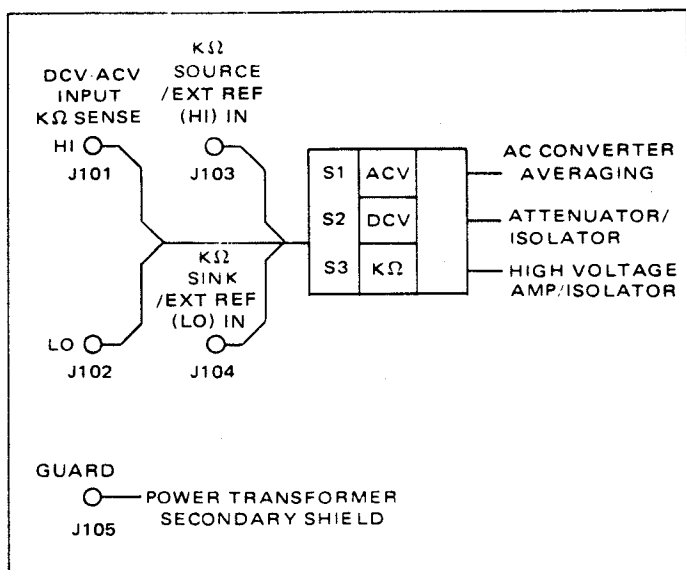

Figure 4.4 - Function Controls
4.3.3.1 A simplified block diagram of the function controls is illustrated in figure 4.4. The function controls consist of